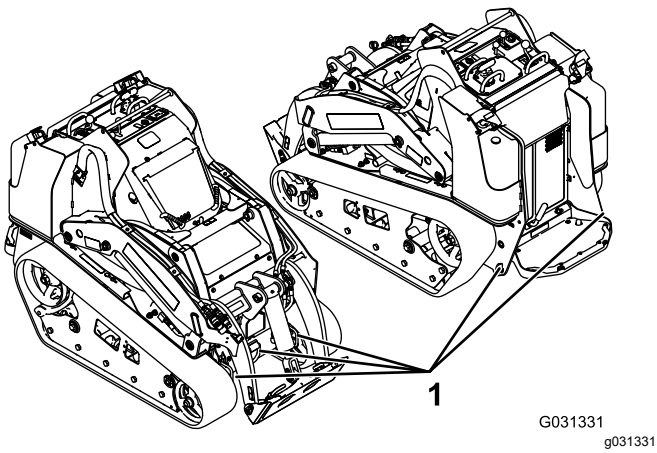

Figure 29
8. Use the metal tie-down loops on the machine to securely fasten the machine to the trailer or truck with straps, chains, cable, or ropes (Figure 29). Refer to local regulations for tie-down requirements.